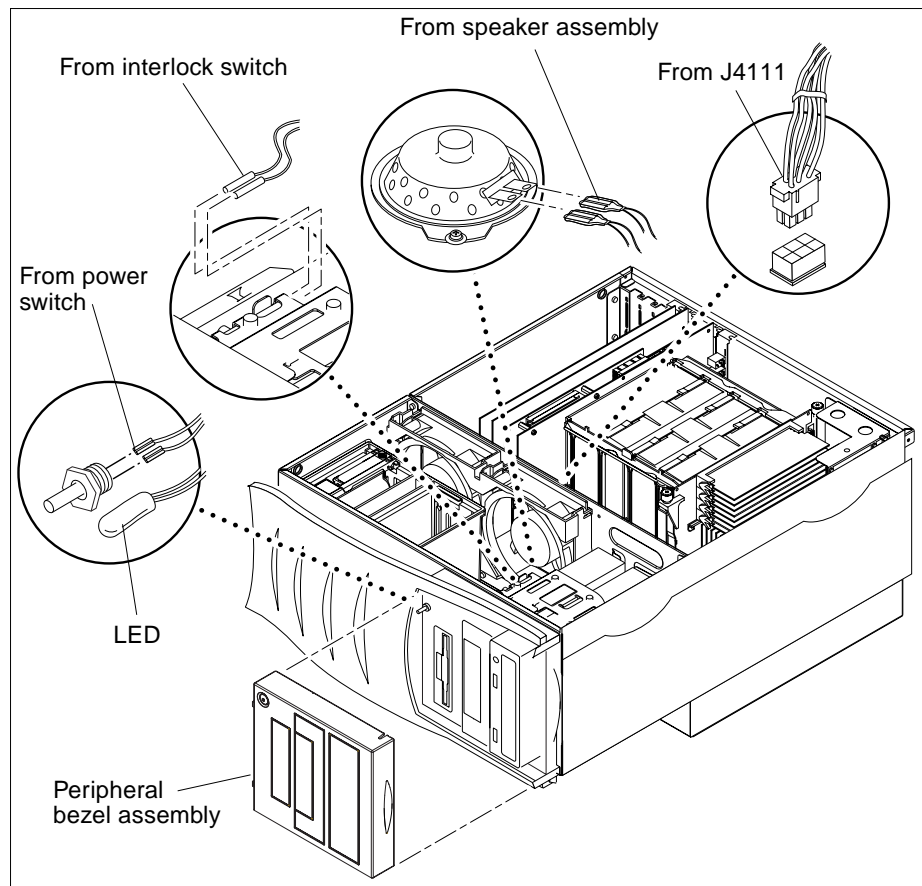

FIGURE 7-7 Removing and Replacing the Combined Cable Assembly
**5. Disconnect the combined cable assembly as follows (FIGURE 7-7):**
1. Position the combined cable assembly into the chassis (FIGURE 7-7).